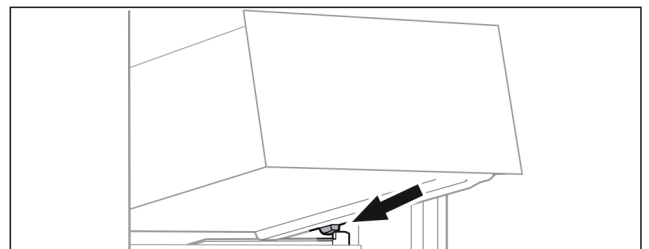

Fig. 65
- ▶ Place drawer at an angle behind the stoppers on the moulded rib. (see Fig. 65)